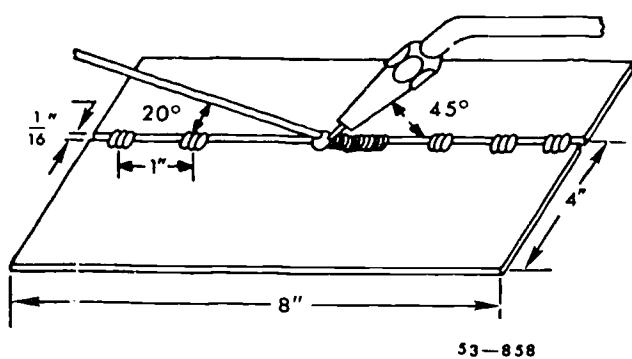

Figure 2-30. Welding butt joints.
*Setup and tack welding.* The proper spacing, size, and penetration of the tack welds help maintain the alignment of the joint and reduce the possibility of excessive warping. The spacing between the edges of the sheet should equal the metal thickness after tacking. Because of the high coefficient of expansion, make tack welds that completely penetrate the base metal and that are spaced approximately 1 inch apart along the entire joint. Figure 2-30 shows the proper setup for welding a rigid butt joint on stainless steel. Note the degree and dimension indications.